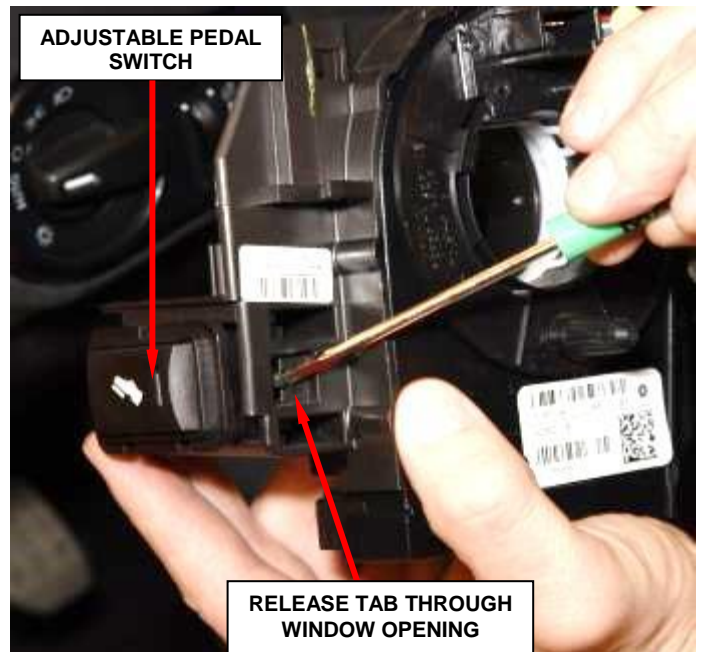

Figure 9 - Adjustable Pedal Switch
20. Release the adjustable pedal switch from the clockspring then remove and save the switch (Figure 9).
23. Install the adjustable pedal switch onto the **NEW** clockspring (Figure 9).